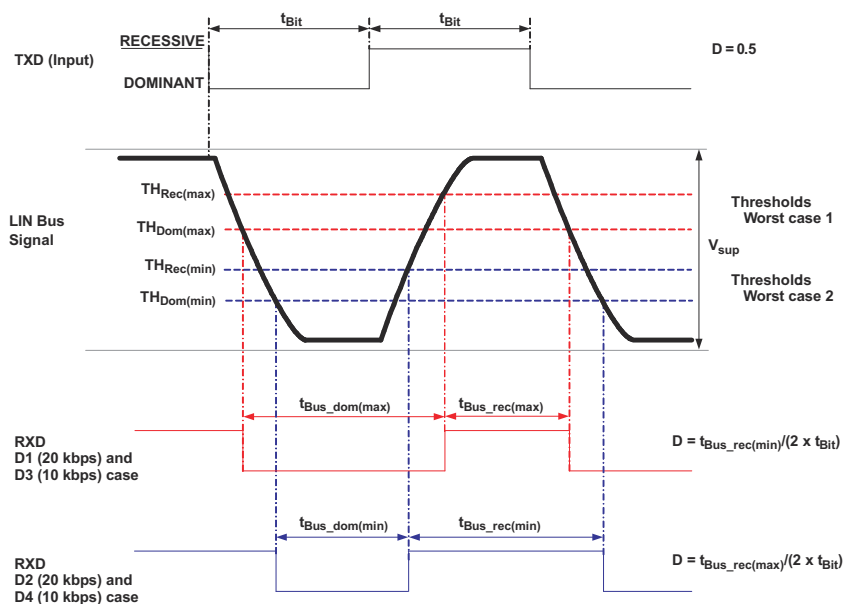

图 7-1. Definition of Bus Timing Parameters
| D1                        | Duty cycle 1 (5) (ISO 17987-4 Param 27) | $TH_{REC(max)} = 0.744 \times V_{SUP}$ , $TH_{DOM(maximum)} = 0.581 \times V_{SUP}$ ,$V_{SUP} = 7V$ to $18V$ , $t_{BIT} = 50 \mu s$ (20 kbps),$D1 = t_{Bus\_rec(min)} / (2 \times t_{BIT})$ (see Fig 7-1)       | 0.396         |                    |                 |          |
| D2                        | Duty cycle 2 (5) (ISO 17987-4 Param 28) | $TH_{REC(min)} = 0.422 \times V_{SUP}$ ,$TH_{DOM(min)} = 0.284 \times V_{SUP}$ ,$V_{SUP} = 7.6V$ to $18V$ ,$t_{BIT} = 50 \mu s$ (20 kbps),$D2 = t_{Bus\_rec(max)} / (2 \times t_{BIT})$ (see Fig 7-1)   |               |                    | 0.581           |          |
| D3                        | Duty cycle 3 (5) (ISO 17987-4 Param 29) | $TH_{REC(max)} = 0.778 \times V_{SUP}$ ,$TH_{DOM(max)} = 0.616 \times V_{SUP}$ ,$V_{SUP} = 7V$ to $18V$ ,$t_{BIT} = 96 \mu s$ (10.4 kbps),$D3 = t_{Bus\_rec(min)} / (2 \times t_{BIT})$ (see Fig 7-1)   | 0.417         |                    |                 |          |
| D4                        | Duty cycle 4 (5) (ISO 17987-4 Param 30) | $TH_{REC(min)} = 0.389 \times V_{SUP}$ ,$TH_{DOM(min)} = 0.251 \times V_{SUP}$ ,$V_{SUP} = 7.6V$ to $18V$ ,$t_{BIT} = 96 \mu s$ (10.4 kbps),$D4 = t_{Bus\_rec(max)} / (2 \times t_{BIT})$ (see Fig 7-1) |               |                    | 0.59            |          |